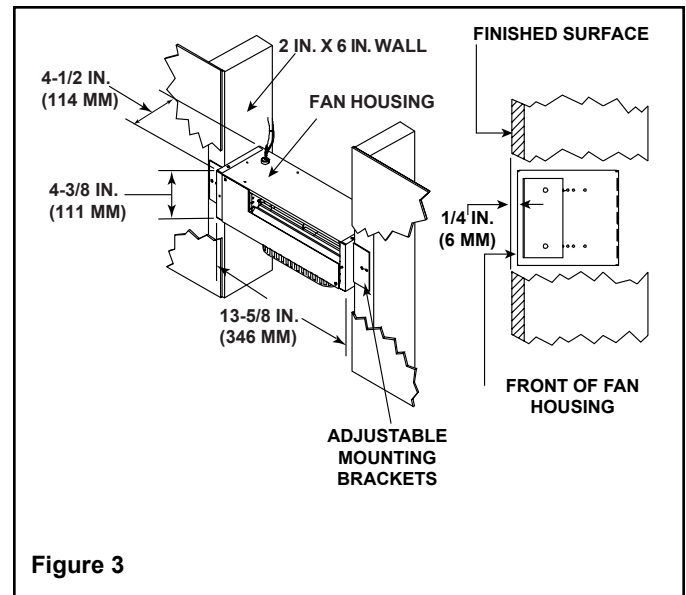

Figure 3
4. Mount and secure the fan housing assembly to framing members so the front surface is 1/4 in. (6 mm) below the finished wall or floor surface. Use the adjustable mounting brackets and screws provided in the kit. See Figure 3 and Figure 4.